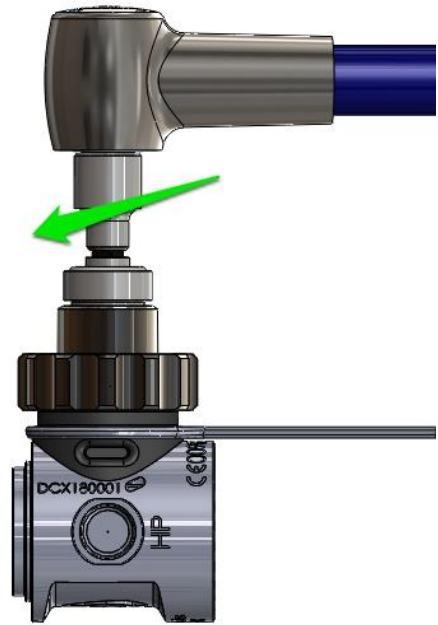

Fig. 33
- h. Secure the body 7276.8 in a soft jawed or well-padded vise. Use a ¼ Allen key mounted to a torque wrench tighten the DIN Nipple 6750 to a torque of 23 - 25 ft-lbs. (31.2 - 33.9 N-m) (Fig. 33).